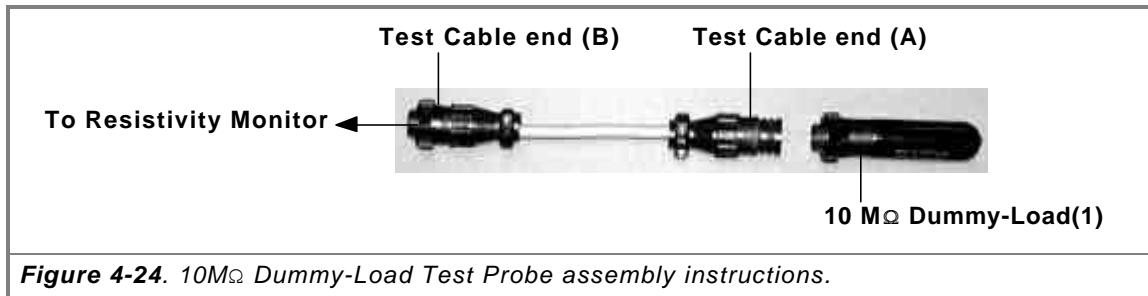

Figure 4-24. 10M Ω Dummy-Load Test Probe assembly instructions.
3. Assemble the dummy-load test probe and connect it to the existing resistivity monitor (Figure 4-24).